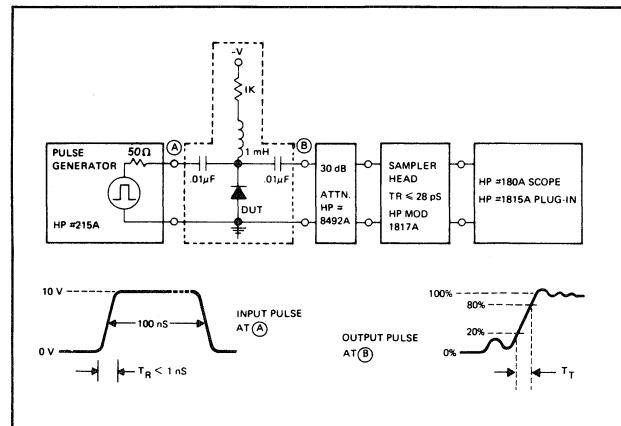

Figure 4. Transition Time,  $T_T$ , Test Set-Up
limiting values of  $\tau$  and  $T_T$ . Test circuits to determine  $\tau$  and  $T_T$  are shown in Figures 4 and 5.
3. Measured in Circuit of Figure 4;  $I_F = 10$  mA,  $V_R = 10$  Volts